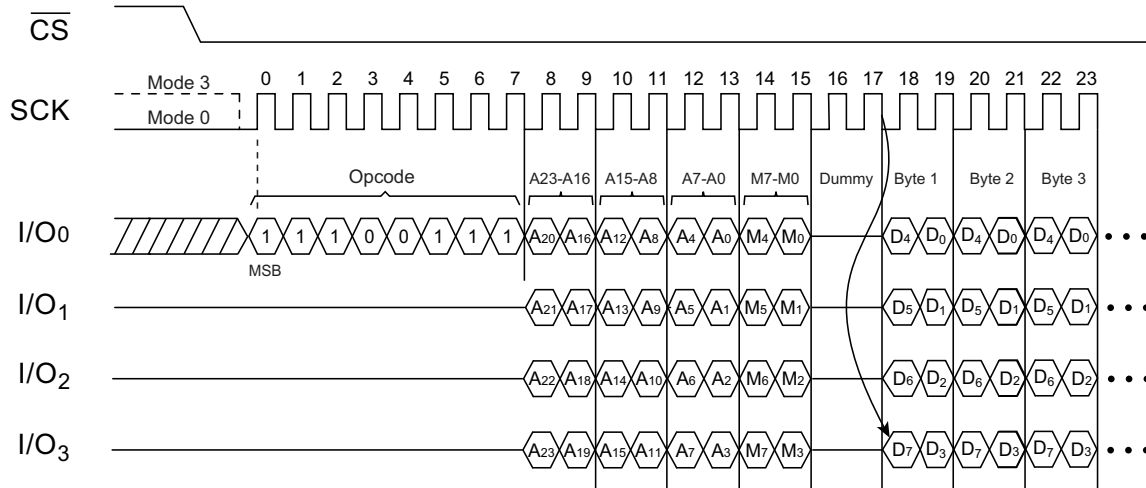

Figure 15. Quad I/O Word Fast Read Timing (Initial Command Set M5, M4 ≠ 1,0) SPI Mode
The Quad I/O Word Fast Read command is similar to the Quad Fast Read command, except that the lowest address bit (A0) must equal 0 and have two dummy clock cycles. Figure 15 shows the command sequence; the first byte addressed can be at any location. The address is automatically incremented to the next higher address after each byte of data is shifted out. The Quad Enable bit (QE) of the Status Register (S9) must be set to enable.